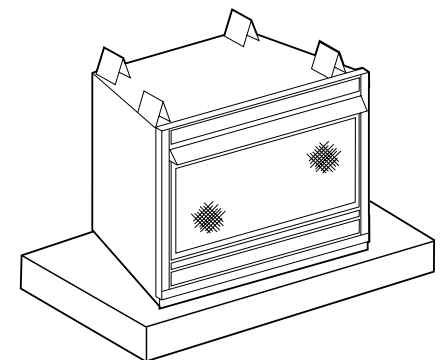

Figure 16
Step 8. Position Heater – Place the heater in desired location. It may be helpful to temporarily assemble the surround around the appliance to properly locate the unit. Refer to *Figure 16* for floor and platform installations. If the heater is to be installed into a framed wall refer to the built-in assembly steps beginning on page 4.